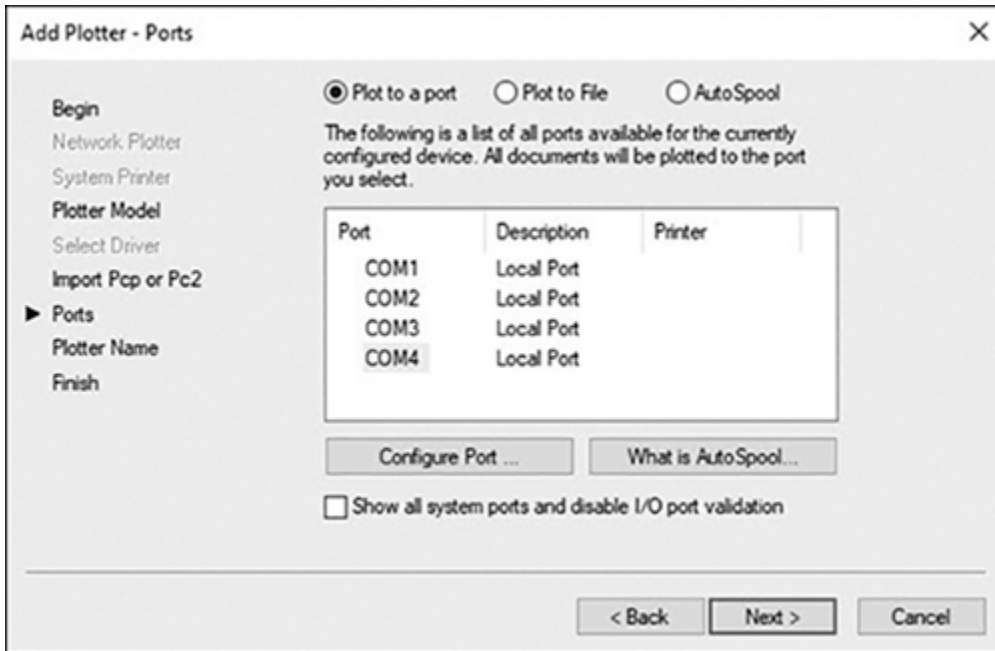

Figure 15-29
- 7** Because this plotter is not actually hooked up to your computer, select the **Plot to File** option (see Figure 15-29). This will redirect the printer output to a file. Choose **Next** to continue to the **Plotter Name** step.